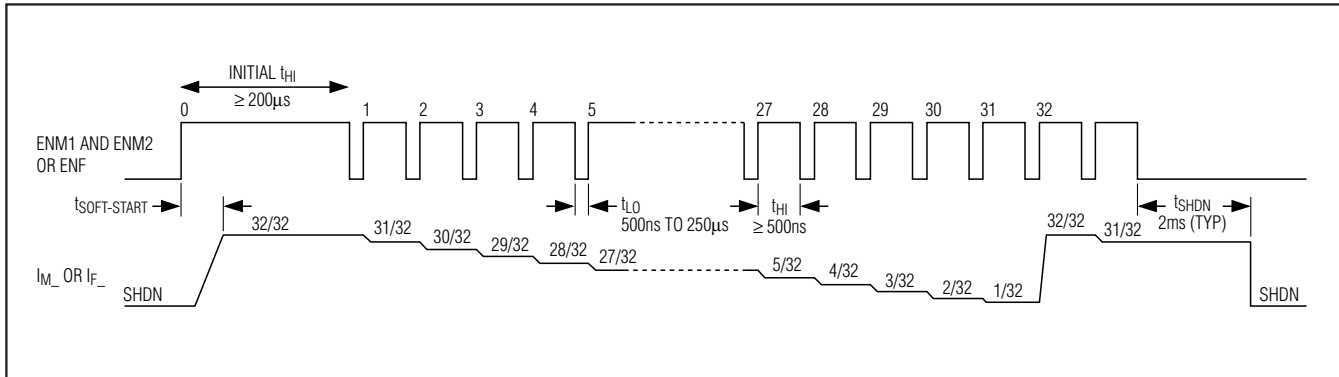

Figure 1. ENM_ and ENF Timing Diagram
3.125% (1/32), so after one pulse the LED current is 96.9% (or 31/32). The 31st pulse reduces the current to 3.125%. The 32nd pulse sets the LED current back to 100%. Figure 1 shows a timing diagram for single-wire pulse dimming. Because soft-start is longer than the initial t_{HI} , apply dimming pulses quickly upon startup (after initial t_{HI}) to avoid LED current transitioning through full brightness. Note there is a 2.2k Ω pullup resistor from ENM2 to IN on the EV kit and a 100k Ω pulldown resistor connected to ENF.